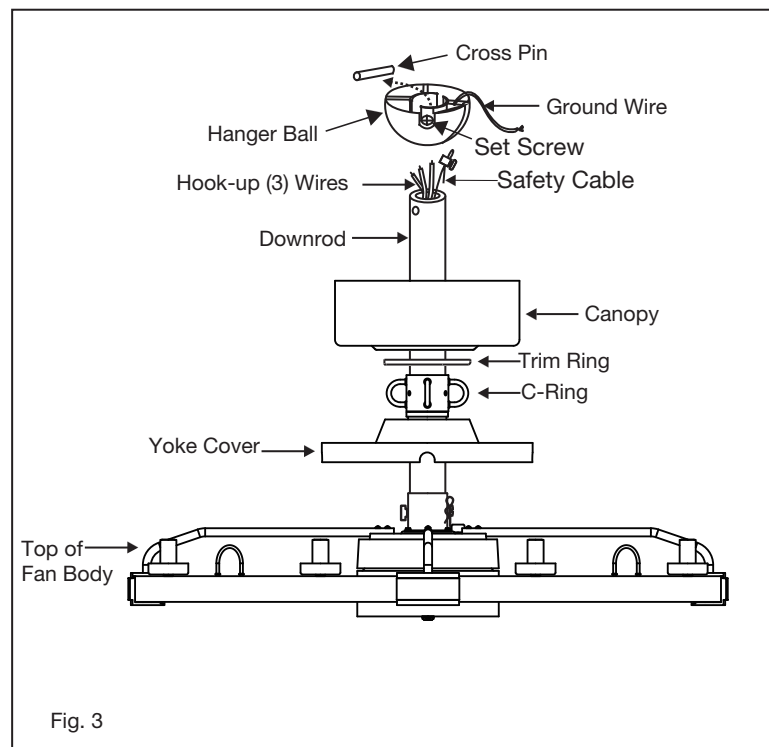

Fig. 3
- 1 Slip the yoke cover, c-ring, trim ring and canopy onto the downrod. (Fig. 3)